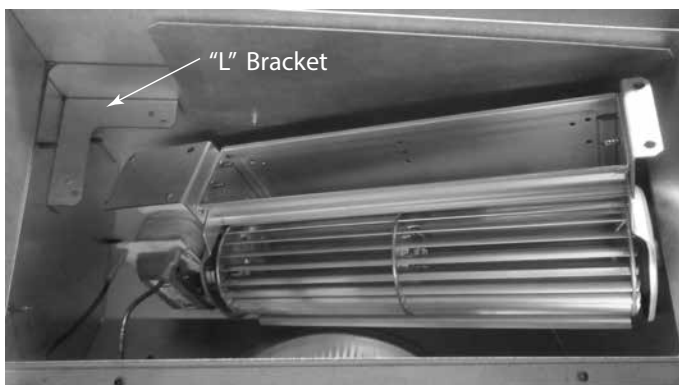

Figure 3.29
- Insert fan into the fan housing starting with motor end first. Slip it below the "L" mounting bracket on the left side allowing the right side to drop in. See Figure 3.29.